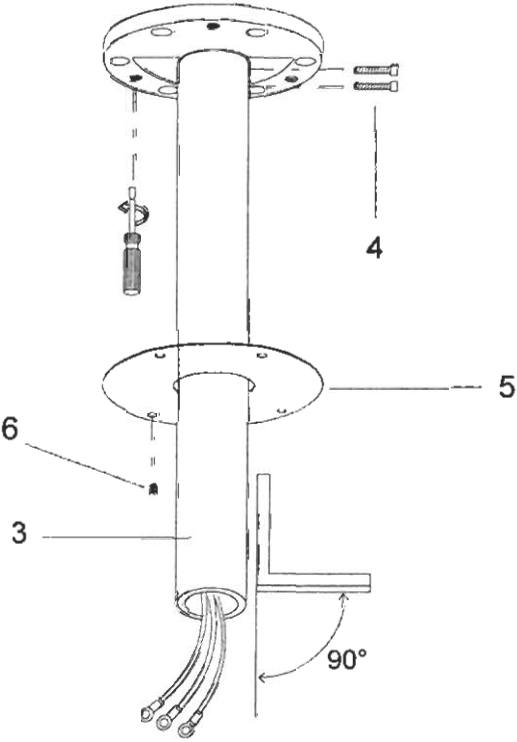

Figure 6-6
5. Screw stand (3) to ceiling suspension plate using the two screws (4) provided in installation kit (see Figure 6-6).
7. Install ceiling suspension plate cover (5) with the four screws (6).